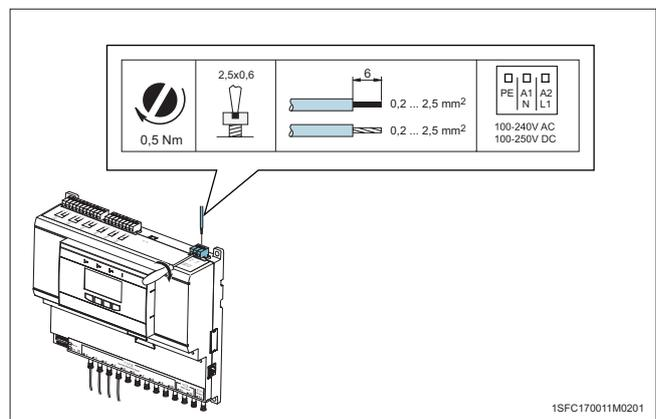

Figure 18
4. For 1SFA664001R1001 connect the cable for power supply 100-240V AC / 100-250V DC. See **Figure 18**.